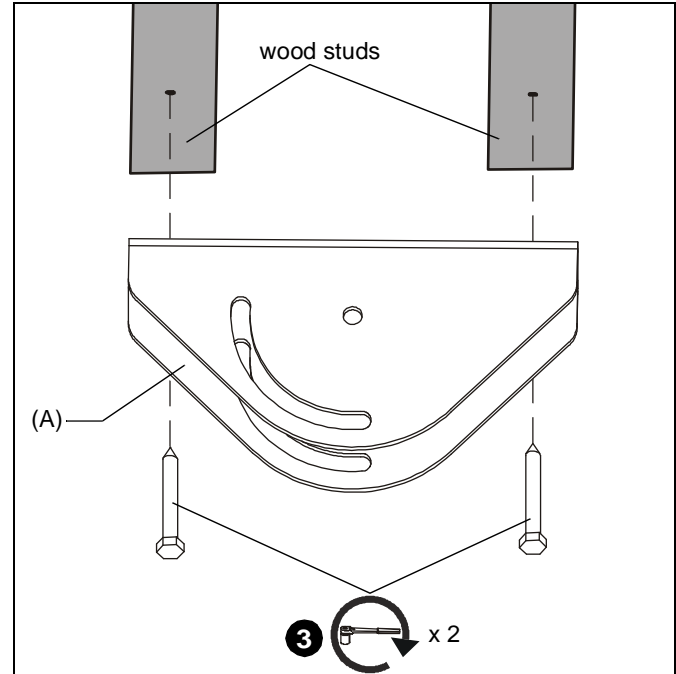

Figure 2
3. Install and tighten two 3/8" x 2-1/2" (minimum) Grade 2 lag screws (not included) through CPA395 (A), into wood joist (See Figure 2).